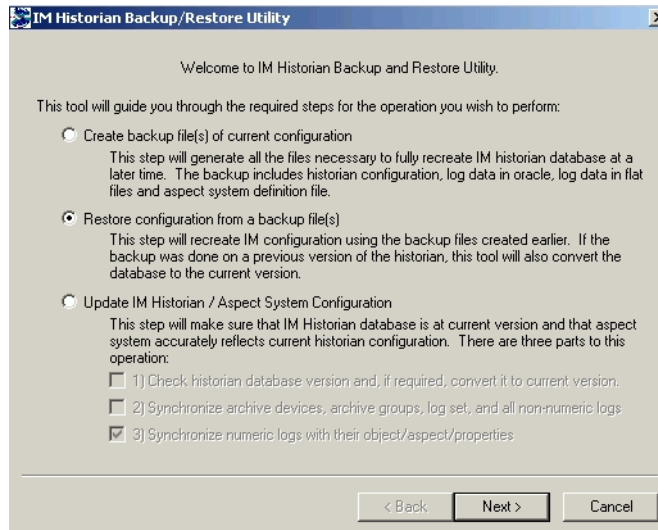

Figure 302. Starting a Restore Operation
2. Click the **Restore configuration from backup files** option, Figure 302.